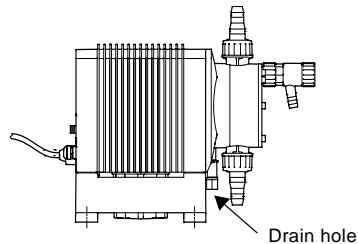

Fig. 1 Position of drain hole
- Make sure that the drain hole in the dosing head points downwards, see fig. 1.